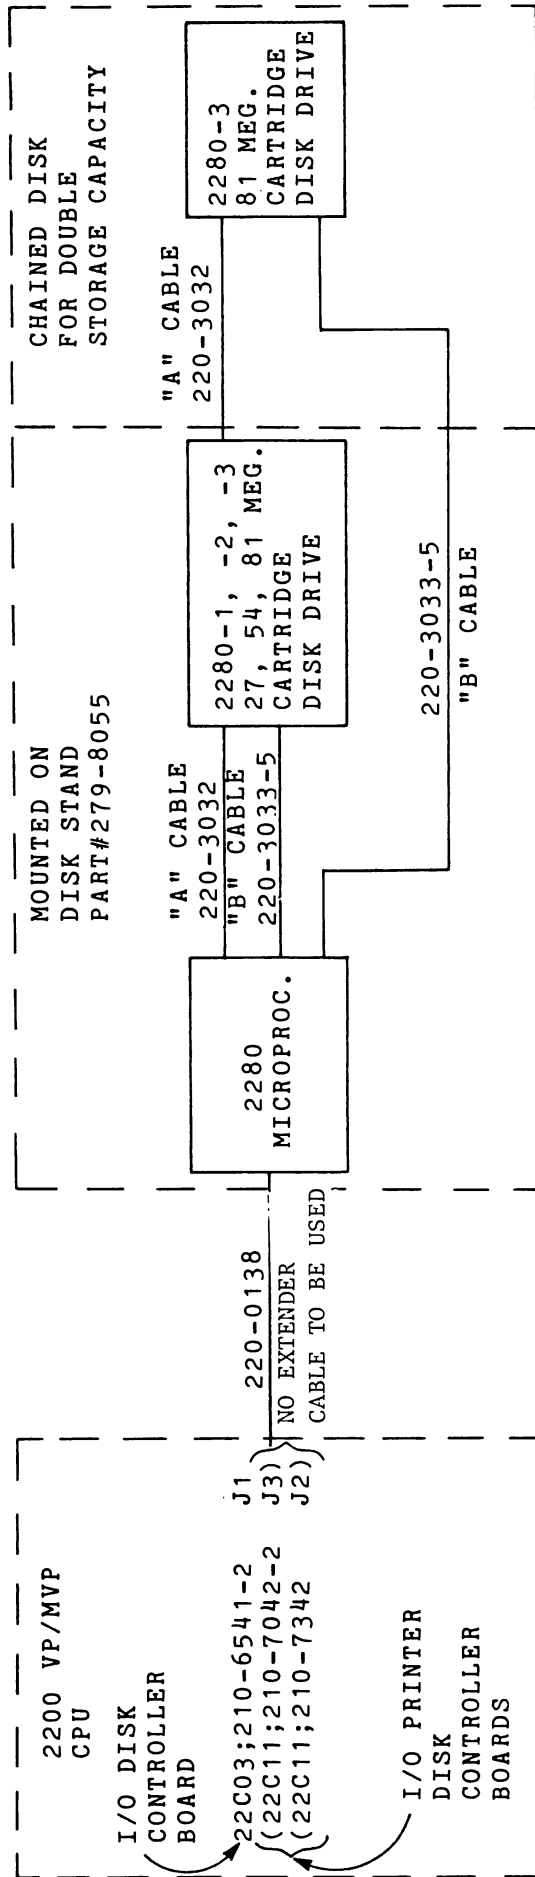

FIGURE 2 - CABLING ARRANGEMENT FOR 2280 SINGLE AND CHAINED DISK DRIVES
- 2. The VP/MVP Bootstrap Proms (3) must be an R1 version.
4. A dual jack (Printer/Disk) controller may be used if single jack is not available (P/N 210-7042-2). See Figure 2 for details.
CABLE CONNECTIONS (See Figure 2)